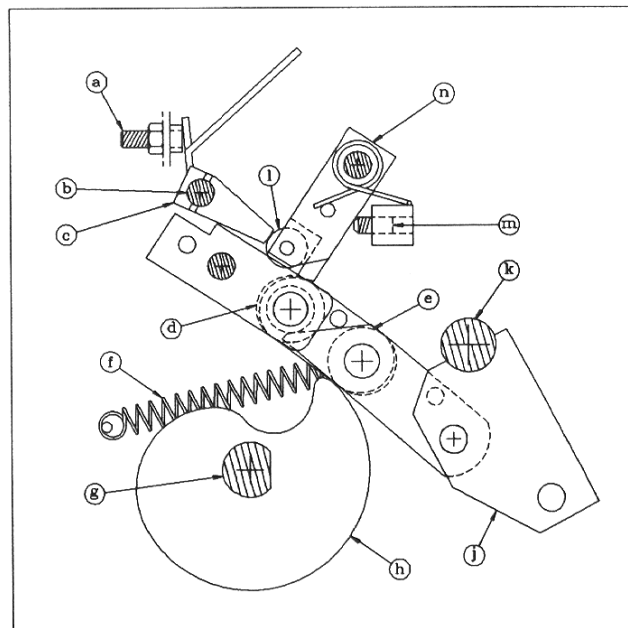

Figure 10. Mechanism and Trip Linkages
In the linkage positions shown in Figures 8b and 8d, the contact loading springs and the main opening springs are both acting to compress the three (3) main mechanism links (Figure 10).